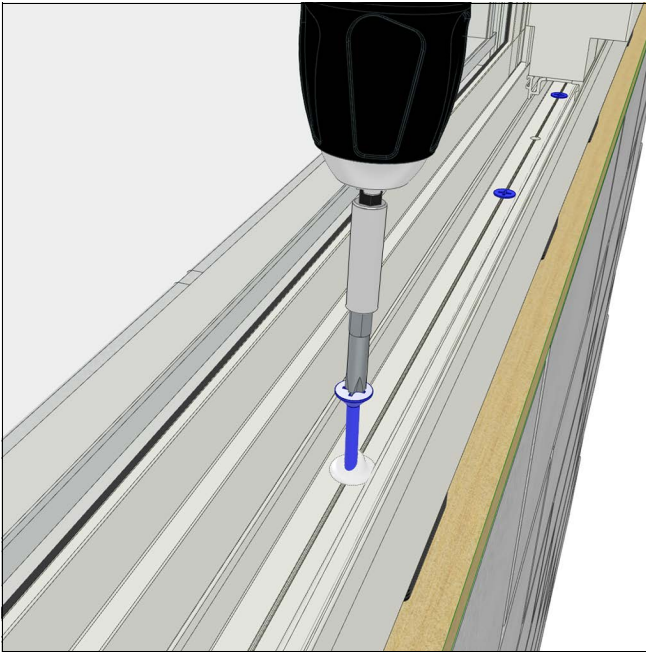

Figure 14
7. Fasten the unit into the opening through all installation holes using appropriate fasteners (See Typical Anchors on page 9). See Figure 14.